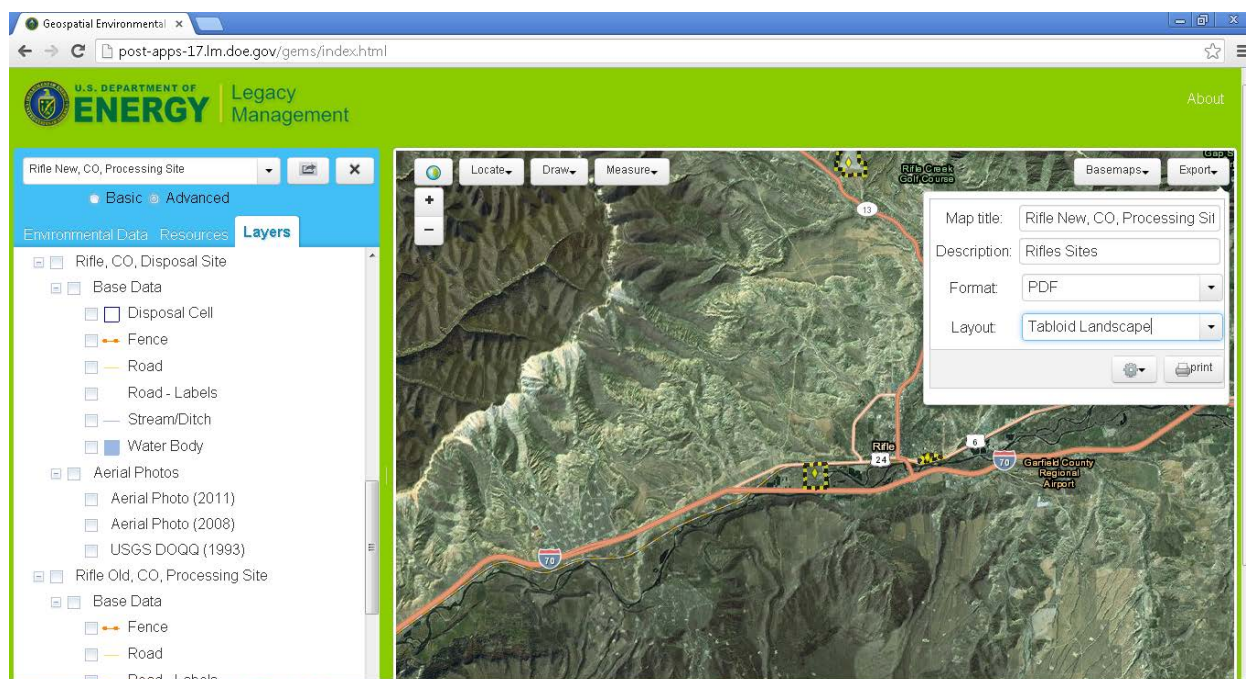

Fig. 9. Screenshot of the GEMS Export feature.
- Edit, share, and export maps to PDF/PNG file formats (**Fig. 9**)